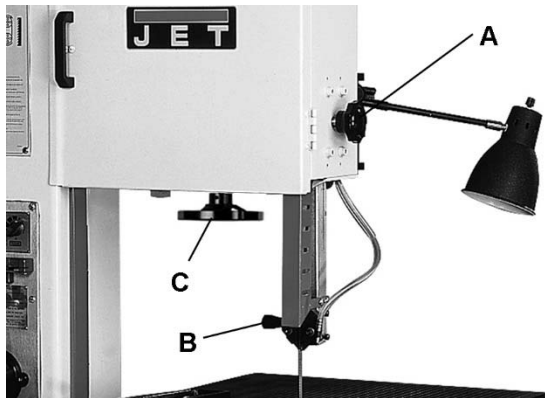

Figure 6
1. Raise upper blade guide by loosening lock knob (A, Figure 6) and lifting blade guide handle (B, Figure 6) to its highest position.
3. To tighten blade, turn handwheel (C, Figure 6) clockwise. To loosen blade, turn handwheel counterclockwise.